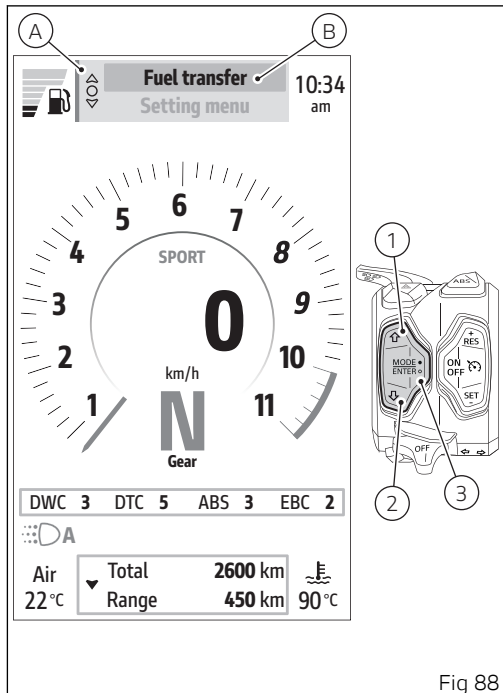

Fig 88
Use buttons (1) and (2) from the Interactive Menu to select item "Fuel transfer" (B, Fig 88) and press the ENTER button (3).